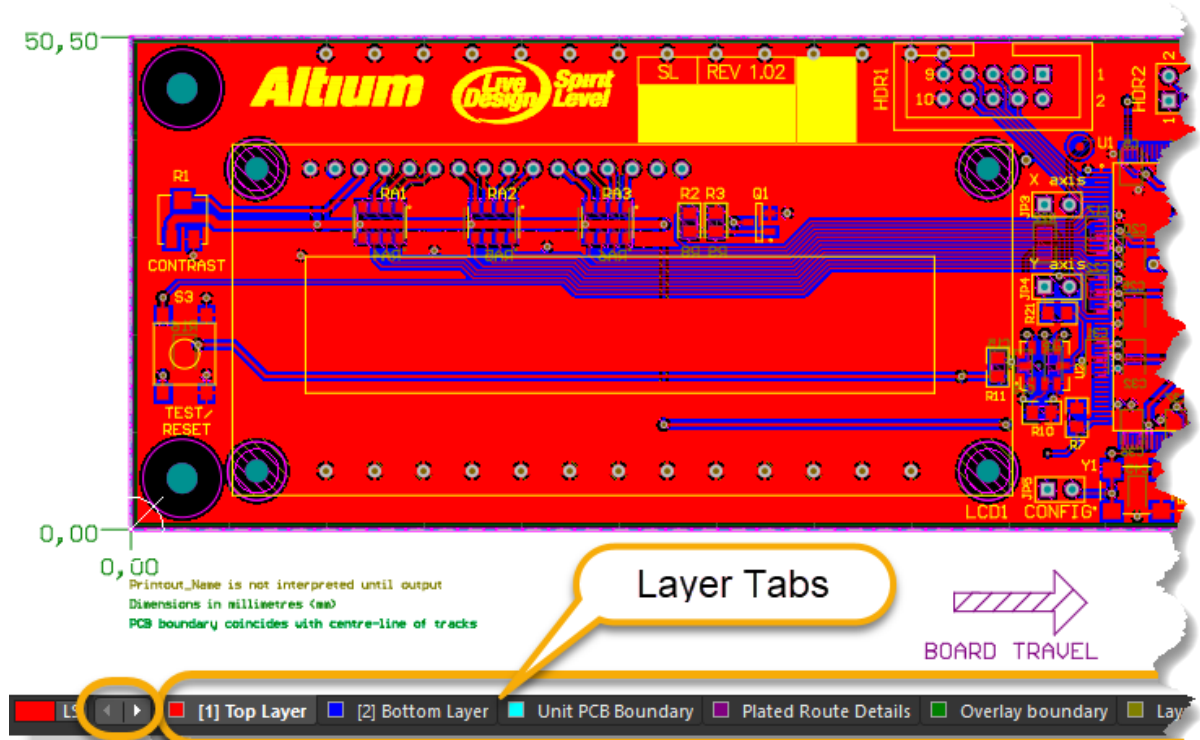

Figure 9. Layers tab showing all available layers
- Click the two small arrows  beside the layer tabs to scroll through the tabs, similar to what is shown in Figure 9.